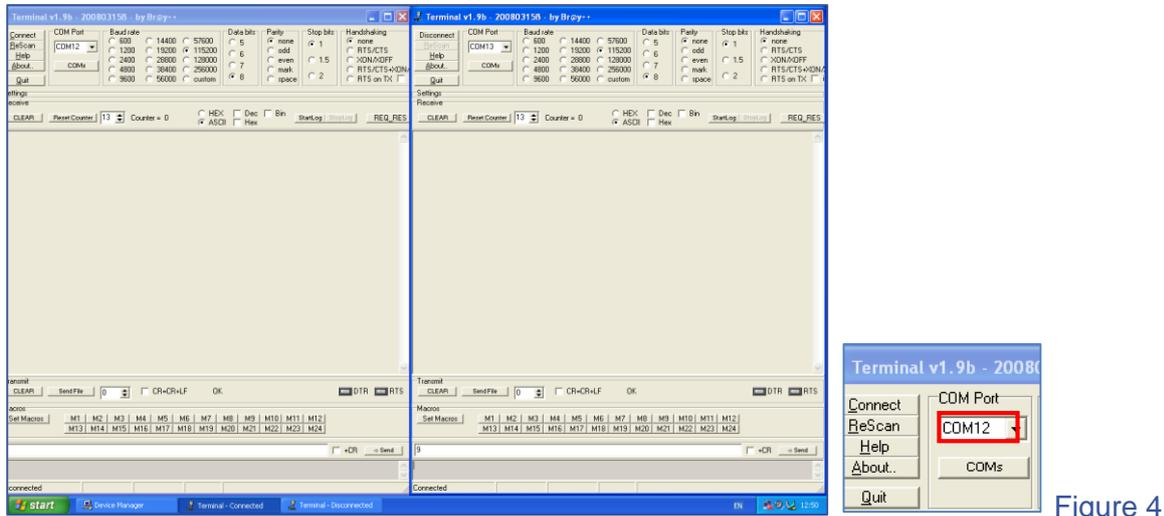

Figure 4
Step 10: Open two windows of the terminal program and select each com port from either window (from step 9), and then press connect on each terminal window (figure 4). Whereby one window will start to output a stream of information while the other screen will display a setup menu.